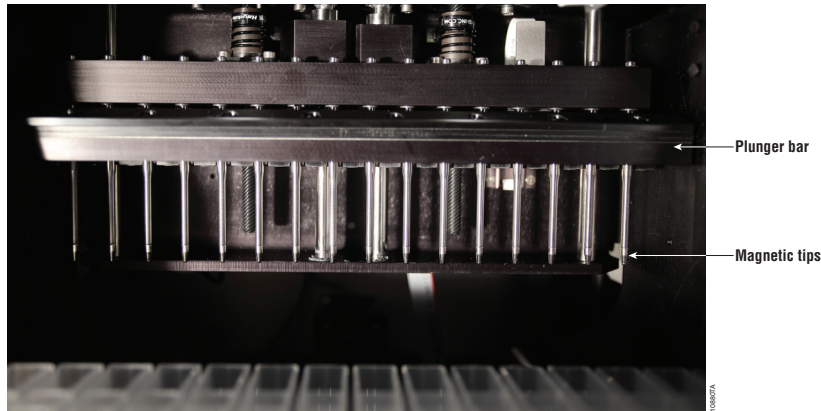

Figure 70. Plunger Bar.
3. Manually bring the plunger bar (Figure 70) down to cover the magnetic tips.